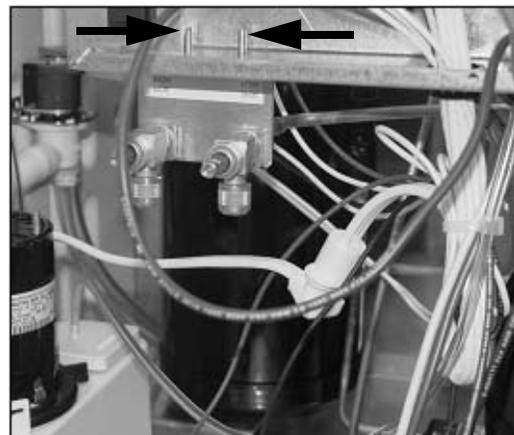

Figure 46.
49. Use 2 hex head screws to attach the service valve bracket to the electrical control box (Figure 46).